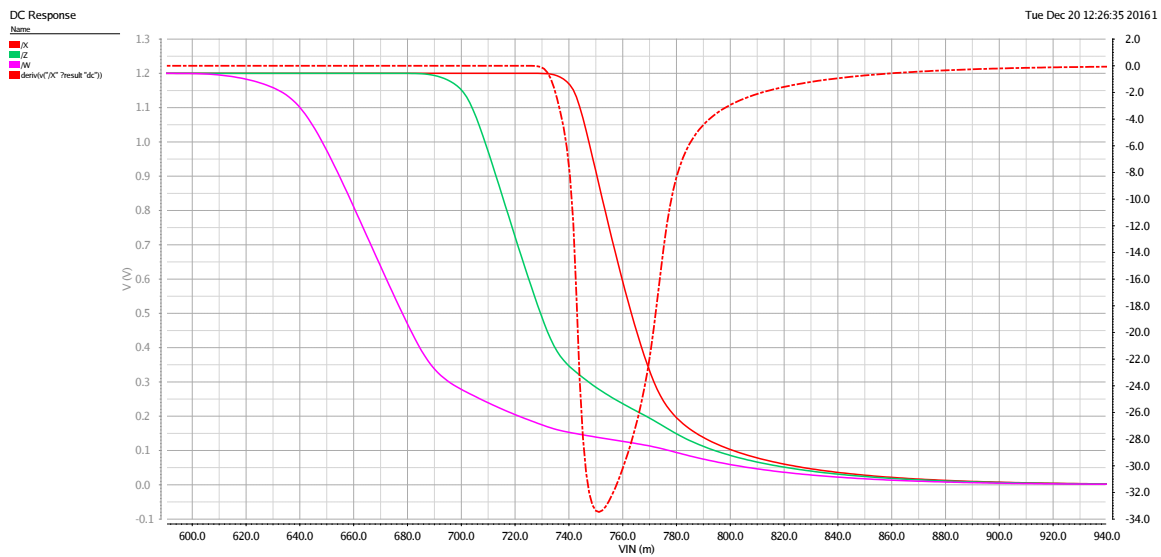

Figure 5.5: Voltage transfer curves (VTC) for the three outputs X, Y and W and the derivative of the VTC for output X.
Figure 5.5 shows the voltage transfer curves for three of the four logical gates in the schematic Figure 3.1 simulated with all transistors having the same widths and with all four inputs, A-D, connected together, so that there is now only one input. The VTCs have been simulated in a DC analysis in Cadence in the usual 65 nm process. For simplicity you can assume that  $V_{TN} \approx -V_{TP}$ .
- Which logical output of Y1-Y4 corresponds to each of the three VTCs named X (red), Y (green) and W (purple) in the graph in Figure 5.5? Motivate! (3 p)
- In Figure 5.5 is also a plot of the derivative of the VTC for the X output (the red dash-dotted line). From the data given in Figure 5.5 calculate the noise margin for the X output. The graph in Figure 5.5 is repeated in larger scale in Figure A.1 for your convenience. (3 p)